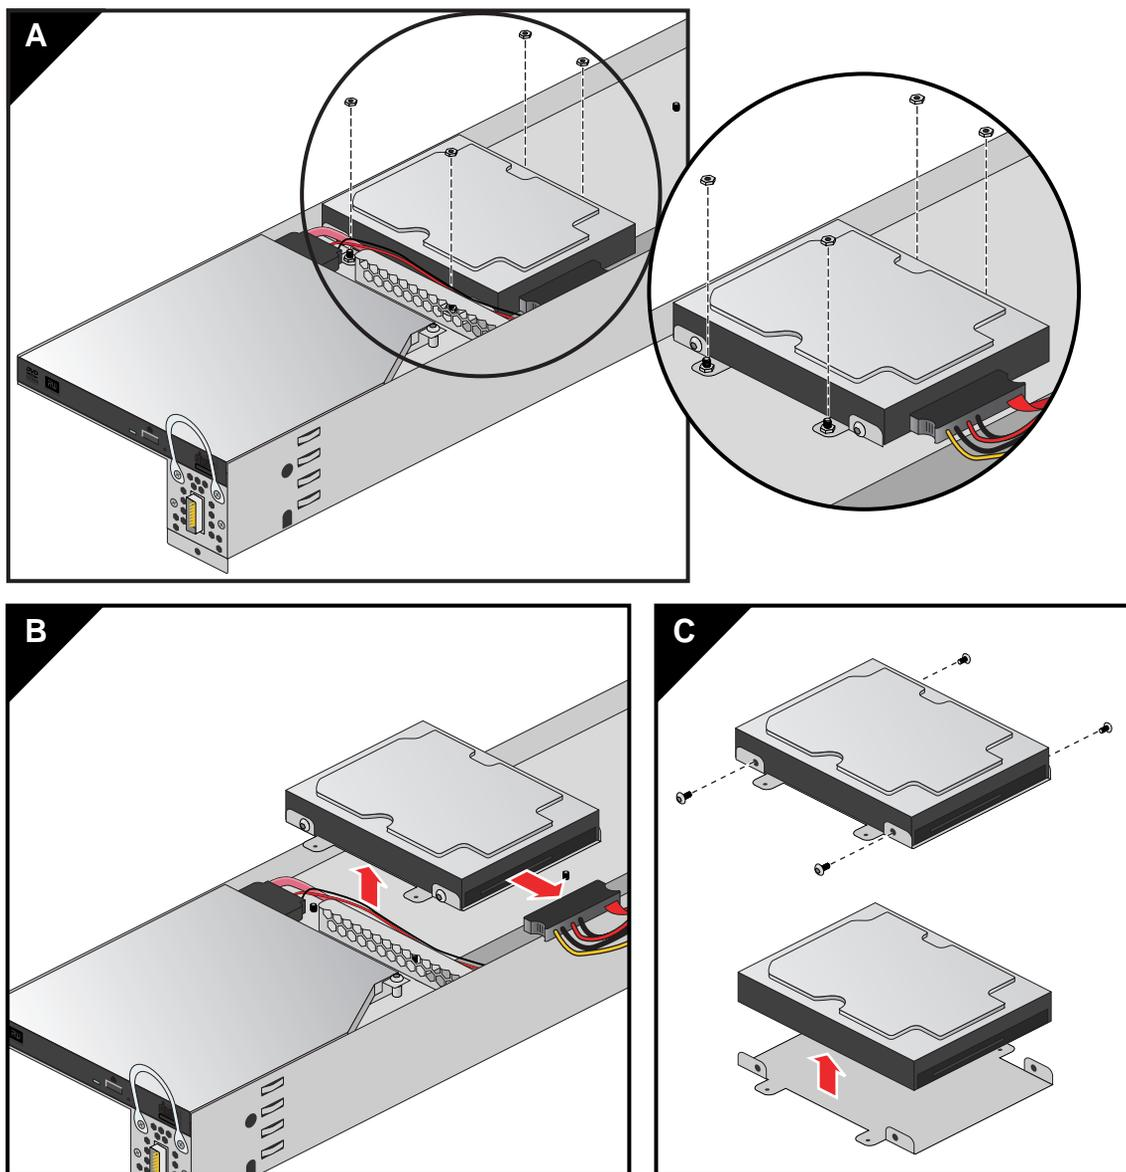

Figure 5-10 Hard Disk Drive Remove Example
8. If replacing an existing hard disk drive, undo the four 7/32-inch (5.56 mm) locking nuts holding it to the drive tray; then unplug the power/data cable and extract the drive. See Figure 5-10 on page 68 for an example.